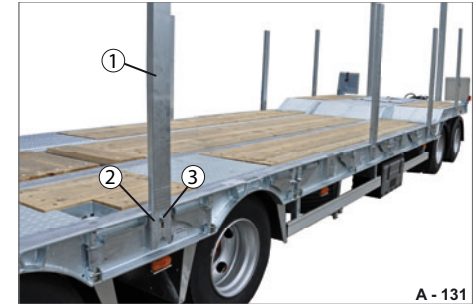

Fig. 101 Side posts
- ▶ Insert the post (Fig. 101/1) completely into the post pocket (Fig. 101/2).
- ▶ Secure the post with screws / washers (Fig. 101/3).